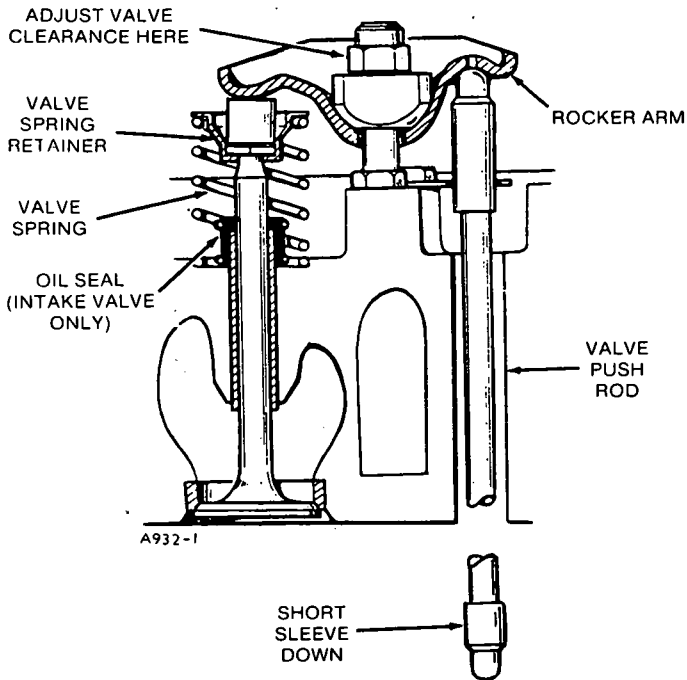

FIGURE 18. SETTING VALVE CLEARANCE
3. Cylinder head bolt torques should be 44 to 46 foot-pounds (60-62 N•m). To change the setting of valve clearance, adjust the locknut which secure the rocker arm to the cylinder head (Figure 18). Loosen the locknut to increase clearance and tighten it to reduce clearance.